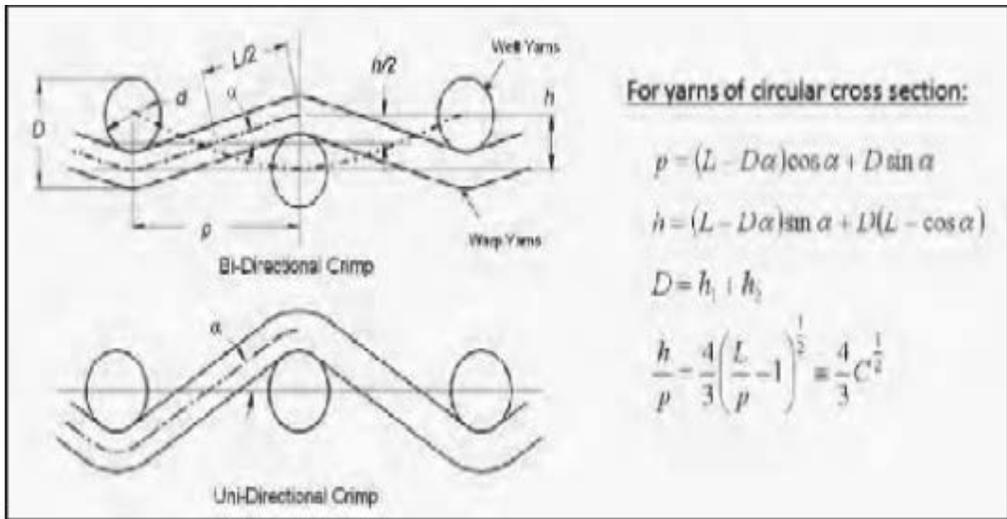

Figure 1: Examples of Pierce’s Geometric Model for plain-woven fabrics with bidirectional and unidirectional crimp
fabric width. The undulations, which are referred to as “crimp,” are shown in Pierce’s geometric fabric model¹³ (figure 1) for a plain weave. Pierce’s geometric model relates the fabric parameters as they are coupled among yarn families. The crimp height h is related to the crimp angle α and yarn length L as measured between yarns and the sum of yarn diameters at the crossover regions. Crimp, denoted as C , is the amount of waviness produced in a yarn when woven in fabric form; it is a geometric property of the weave because of the woven architecture used. Crimp is obtained by measuring the length of a yarn in the woven state, L_{fabric} , and the length of that same yarn after being extracted from the fabric and straightened, L_{yarn} , and then computed according to equation (1) as a percentage. (Cavallaro paul 2011)